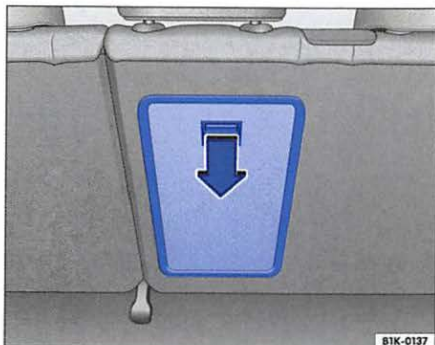

Fig. 58 In the luggage compartment: release button with mark
- Press down the release button ⇒ fig. 58 in the direction of the arrow and fold the cover toward the interior of the vehicle. When the cover is unlocked a red marking will be visible on the release button.